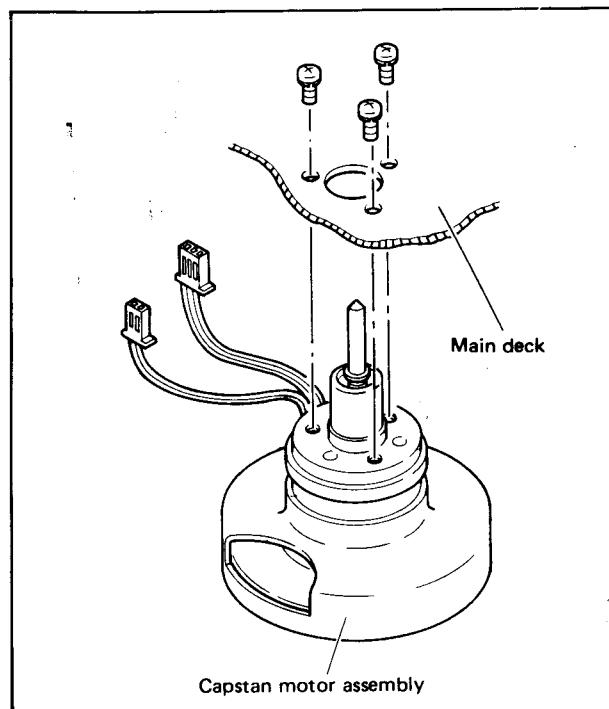

**Fig. 4-14**
7. Place new lower drum ass'y and reassemble by reversing the above steps. Use care to solder the wires to HEAD board in their proper positions as shown in Fig. 4-14.